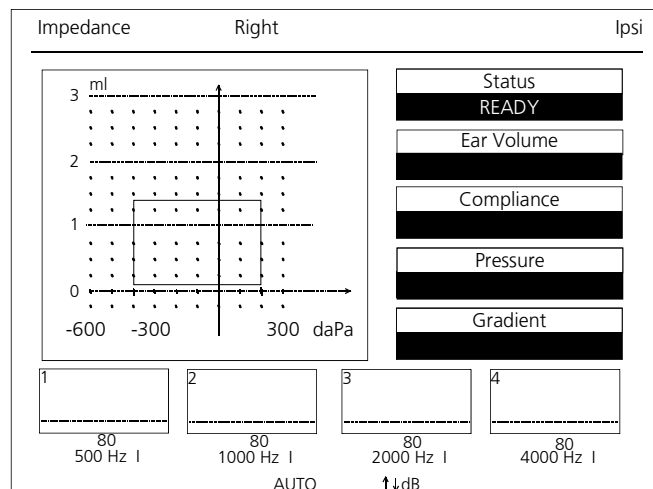

Figure 20 Display Tympanogram + Reflex
Set the desired volume level with the Down-key ⑩ respectively the Up-key ⑫. On the LCD display ⑤ below the reflex boxes at the bottom the selected level in dB (in example figure 20, 80 dB) appears. The "I" indicates that an ipsilateral test is selected. You can choose between the fixed levels 70, 75, 80, 85, 90, 95 and 100 dB_{HL} and AUTO with a starting level of 70 or 80 dB_{HL}. If you choose AUTO the Race Car Tympanometer starts with the lowest level 70 dB_{HL} or 80 dB_{HL} and increases the level automatically until a reflex is registered or the maximum value is reached. You can choose your individual starting level and maximum level (**10.3 The Setup menu for Reflex Test**). If you have chosen a fixed level the instrument measures only with this level.